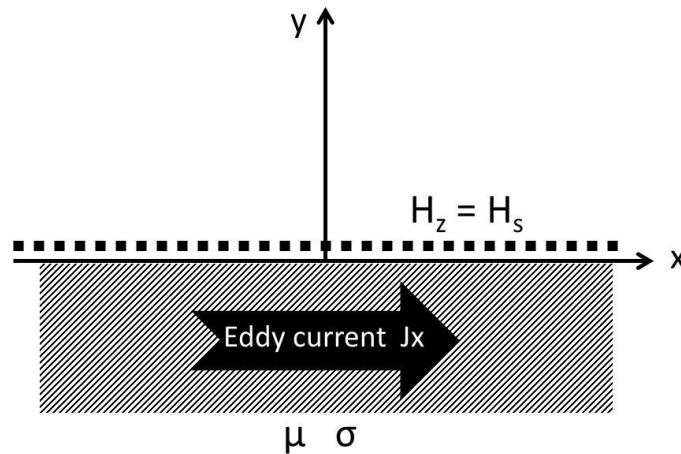

Figure 4 Simplified model which represents 1-D current flow in a thick plate
4. Figure 4 shows a simplified model which represents 1-D current flow in a **thick** plate of material which has a fixed magnetic relative permeability of 1000 and an electrical conductivity of $1.0 \times 10^7 \text{ Sm}^{-1}$. The only component of the time-varying magnetic field strength is in the z-direction.
- a. Explain the significance of the plate being defined as ‘thick’. (2)
- b. Calculate the frequency at which the classical skin-depth is 2mm in this material. (3)
- c. Starting with the full three-dimensional expression for the curl of the magnetic field strength in Cartesian coordinates, demonstrate that the only component of induced current in Figure 4 is J_z . (3)